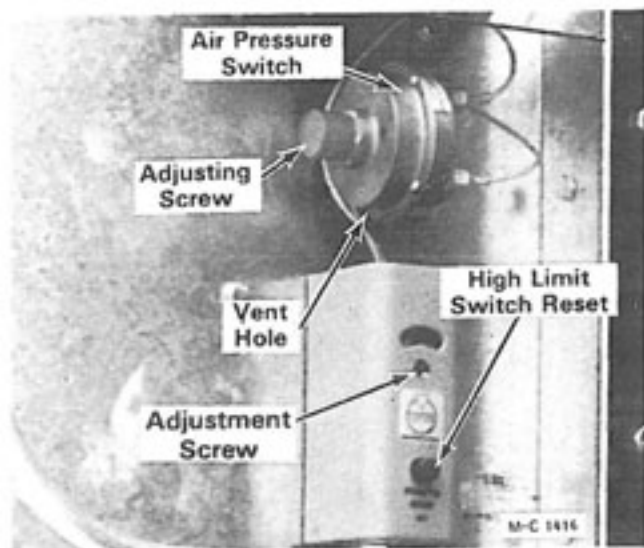
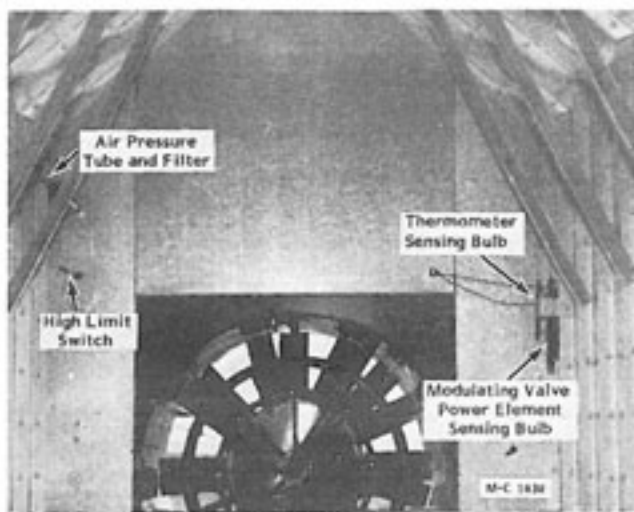

Figure 15
Figure 16
6. Flip the control circuit toggle switch ON. The control circuit ON light and high limit lights will be on. If the high limit lights are not on, push the reset button on the high limit switch, see Figure 15.
1. There is an air pressure switch for each heat chamber, see Figure 15. The air pressure switch senses the static air pressure in the heat chamber when the dryer is full of grain and the fan is running. If the static air pressure drops because of fan failure, the air pressure switch opens stopping current flow to the ignition switch. The gas solenoid valves will close and the burner will shut down.
NOTE: If the light does not come on, remove the air pressure switch and check to be sure the $\frac{1}{8}$ " vent hole in the bottom of the air pressure switch is open, see Figure 15. Also check for an obstruction in the air pressure tube and filter, see Figure 16.
1. Remove the plastic cap on the air pressure switch. The slotted screw is the adjusting screw, see Figure 15.
8. If the High Limit Switch trips out, close the gas main hand valve and flip the ignition switch OFF. Push the reset button on the High Limit Switch to reset it, see Figure 15. Adjust High Limit 30° to 50° above operating temperature. This will avoid nuisance shutdowns during start up.